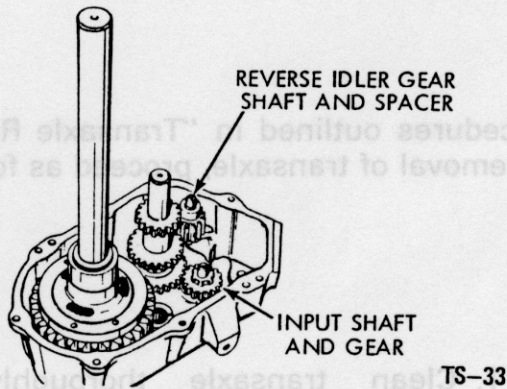

Figure 33 - Reverse Idler Gear and Shaft
8. Remove the reverse idler shaft, spacer and gear (Figure 33) from the case.